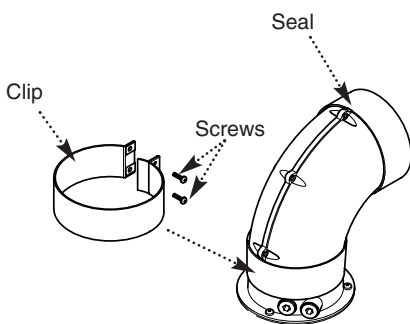

Fig. 21
9. Remove the screws from one of the clips provided. Prise the clip apart and fit it over the seal (Fig. 21). Set the elbow to the required angle.